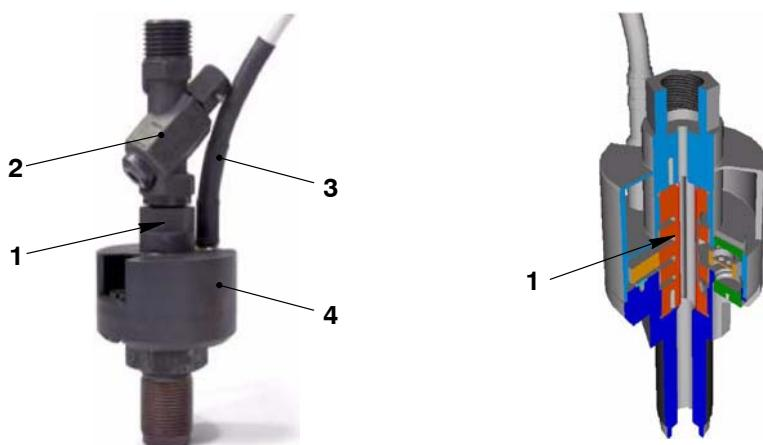

Fig. 1: Pressure Transducer
The pressure transducer (1) (one for each cylinder) is installed on the cylinder cover (see Fig. 1).